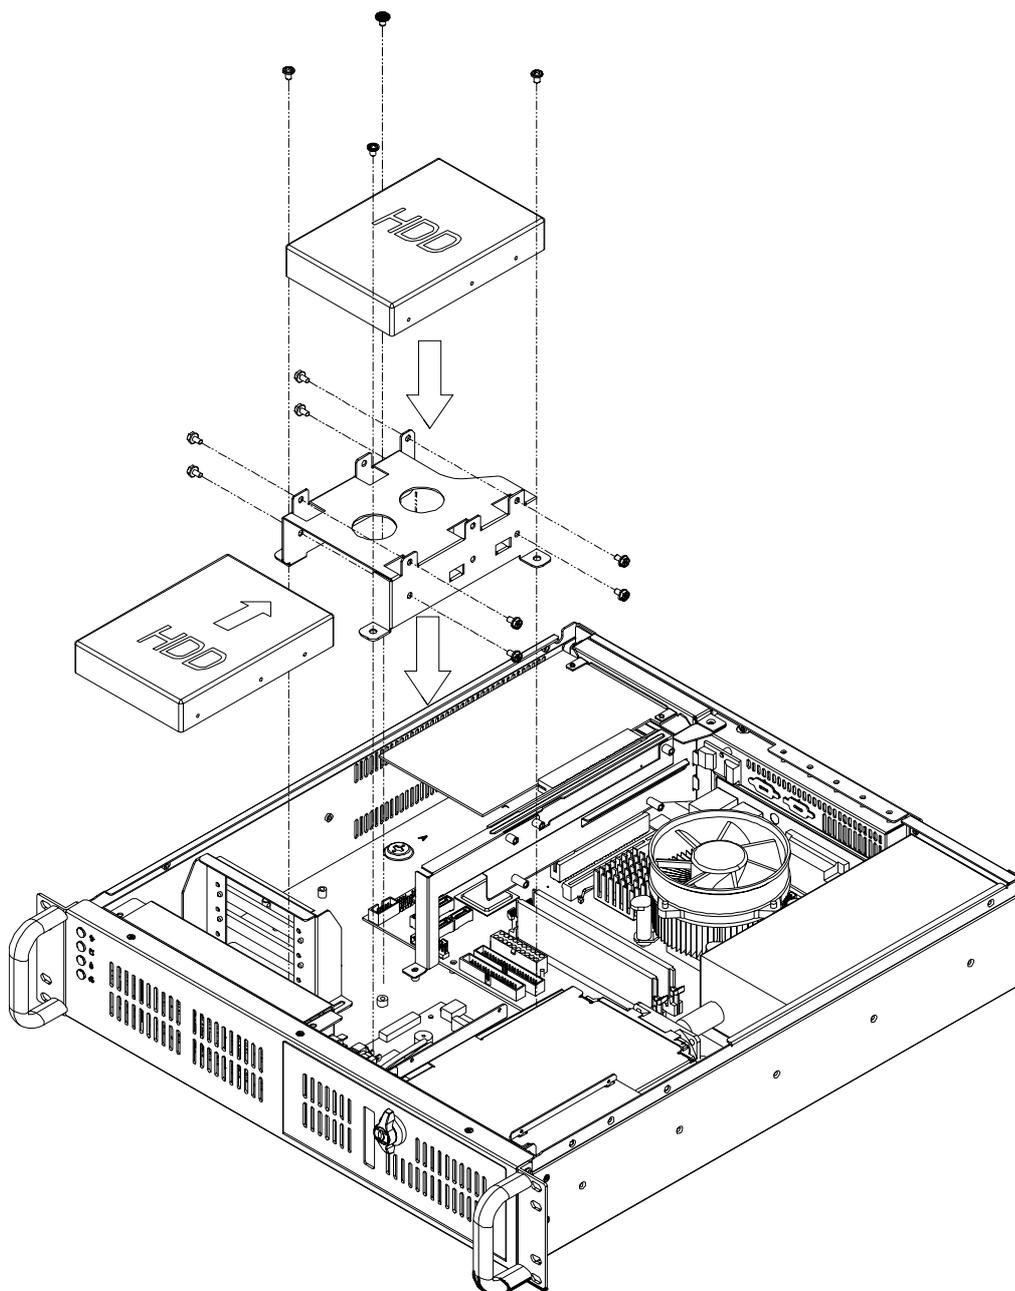

Figure 2.9 Installing the internal HDD
1. To install the 3.5" internal HDD, simply release the four screws on top of the disk drive bracket. (see Figure 2.9)